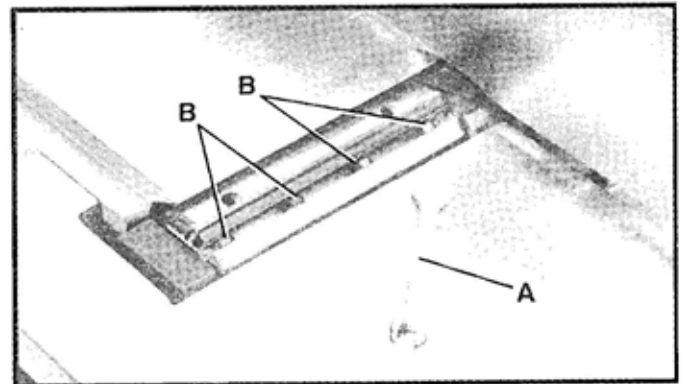
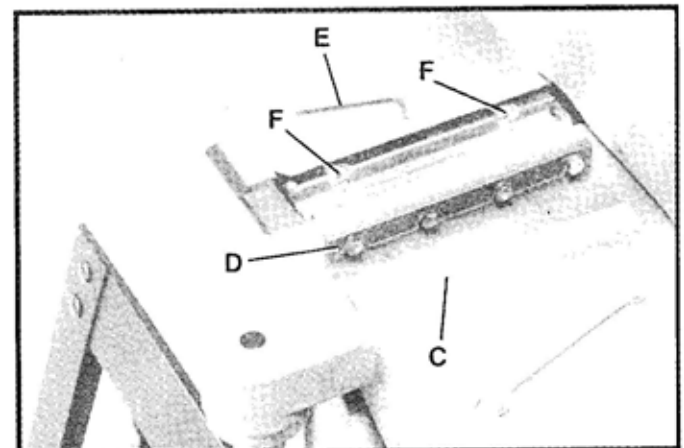
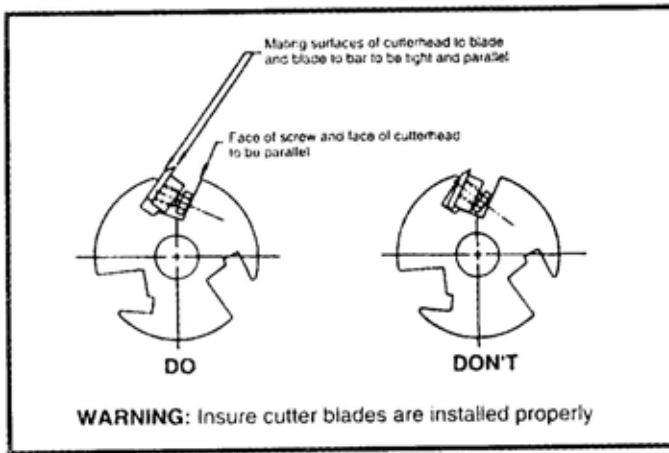

Fig. 57
Fig. 58
Fig. 59
3. Using wrench (A) Fig. 57, slightly loosen the four locking screws (B) in each knife slot by turning the screws (B) clockwise. This relieves stress in the cutterhead.
4. Loosen screws (B) Fig. 57, further and remove knife and knife locking bar.
5. Fig. 58, illustrates the knife (C) and knife locking bar (D) removed from the cutterhead. Remove the remaining two knives and locking bars, in the same manner.
6. Using wrench (E) Fig. 58, lower the two knife adjustment blocks by turning screws (F) counterclockwise in all three slots of the cutterhead.
8. Replace the knife locking bars (D) Fig. 58, and knives (C) into each slot in the cutterhead. **WARNING: CARE MUST BE TAKEN WHEN INSERTING THE KNIVES AS THE CUTTING EDGES ARE VERY SHARP.** Push the knife down as far as possible and snug up the screws (B) Fig. 57, by turning each screw counterclockwise just enough to hold the knife in position. Replace the remaining two knives in the same manner. **NOTE: KNIVES MUST BE INSTALLED CORRECTLY AS SHOWN IN FIG. 59.**